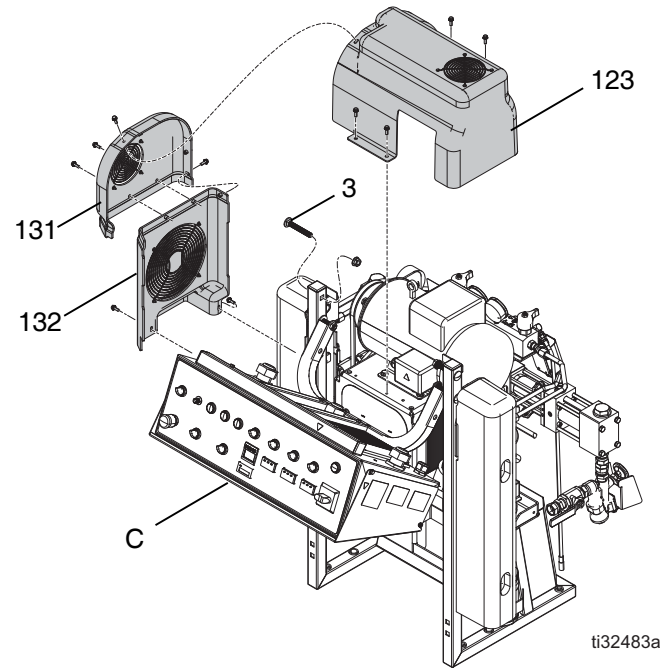
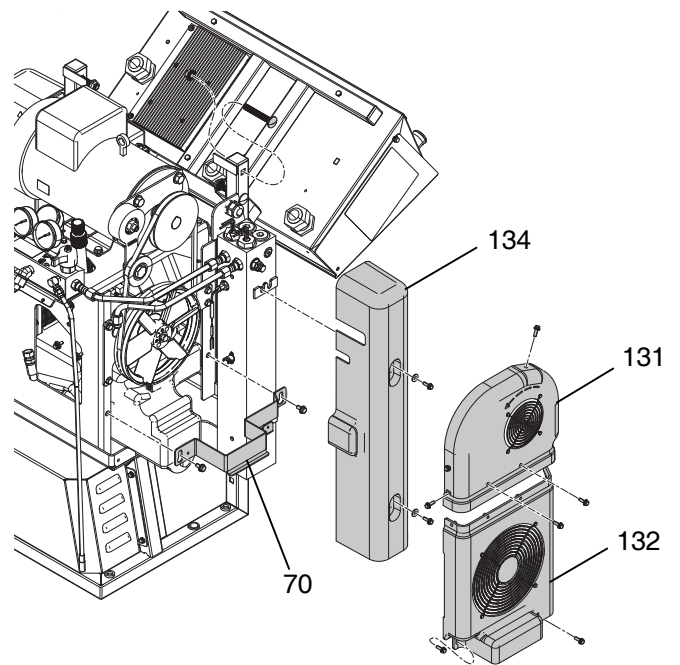

FIG. 63
FIG. 64
- Remove motor and belt covers (123, 131). Lift cover (123) and loosen the silver bracket (70) fasteners. Lift the silver bracket (70) off of the fasteners and set aside. Remove the belt covers (131, 132). Remove the heater cover (123). See FIG. 63 and FIG. 64.